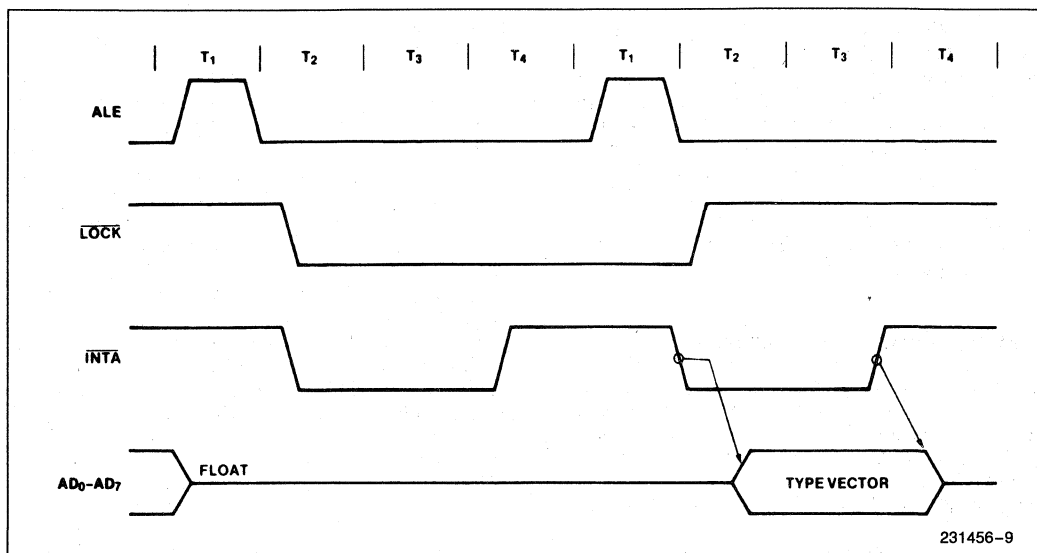

Figure 9. Interrupt Acknowledge Sequence
During the response sequence (See Figure 9), the processor executes two successive (back to back) interrupt acknowledge cycles. The 8088 emits the LOCK signal (maximum mode only) from T2 of the first bus cycle until T2 of the second. A local bus "hold" request will not be honored until the end of the second bus cycle. In the second bus cycle, a byte is fetched from the external interrupt system (e.g., 8259A PIC) which identifies the source (type) of the interrupt. This byte is multiplied by four and used as a pointer into the interrupt vector lookup table. An INTR signal left HIGH will be continually responded to within the limitations of the enable bit and sample period. The interrupt return instruction includes a flags pop which returns the status of the original interrupt enable bit when it restores the flags.
The basic difference between the interrupt acknowledge cycle and a read cycle is that the interrupt acknowledge (INTA) signal is asserted in place of the read (RD) signal and the address bus is floated. (See Figure 9) In the second of two successive INTA cycles, a byte of information is read from the data bus, as supplied by the interrupt system logic (i.e. 8259A priority interrupt controller). This byte identifies the source (type) of the interrupt. It is multiplied by four and used as a pointer into the interrupt vector lookup table, as described earlier.